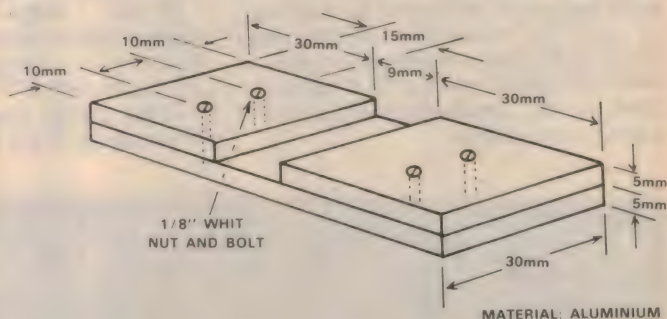

FIG 8
- 1 IC lead bending tool, see Fig. 8
This has been done to facilitate the mounting of the ICs on the board. Fig. 8 gives details of a small jig which is used to bend the ends of the IC leads into a